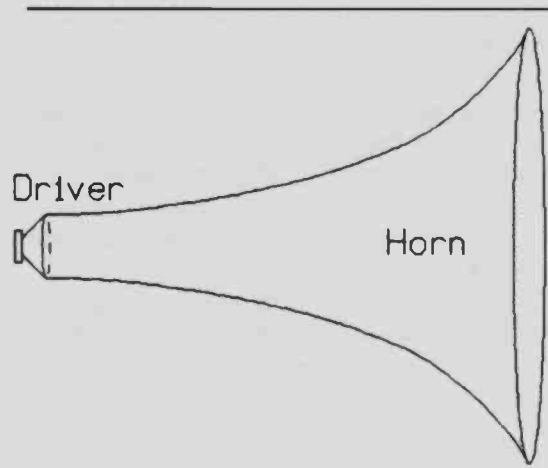

FIGURE 12-9: Horn.
**Horn** enclosures are just what their name implies: by putting the driver in a horn, they effectively couple its relatively small driven area with the air (Fig. 12-9). This results in very high efficiency, which not only reduces cone flexure and distortion but greatly reduces amplifier power requirements.